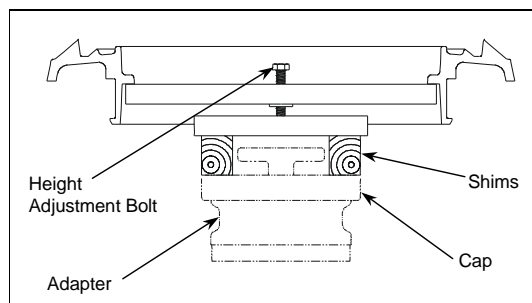
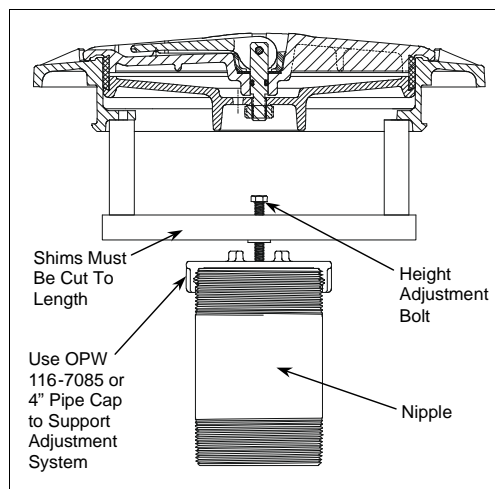

Figure 3 – Standard Cover Model Height Adjustment
Figure 4 – Sealable Cover Model Height Adjustment
**Step 8:** (See Figure 3 & 4)
Install adjusting system beneath tabs on mounting ring. See Figure 3 for standard cover models. See Figure 4 for sealable cover models. Add shims as needed and adjust with screw. (Shims must be cut to size for sealable cover models.) The height can be increased up to 1" (2.5cm).